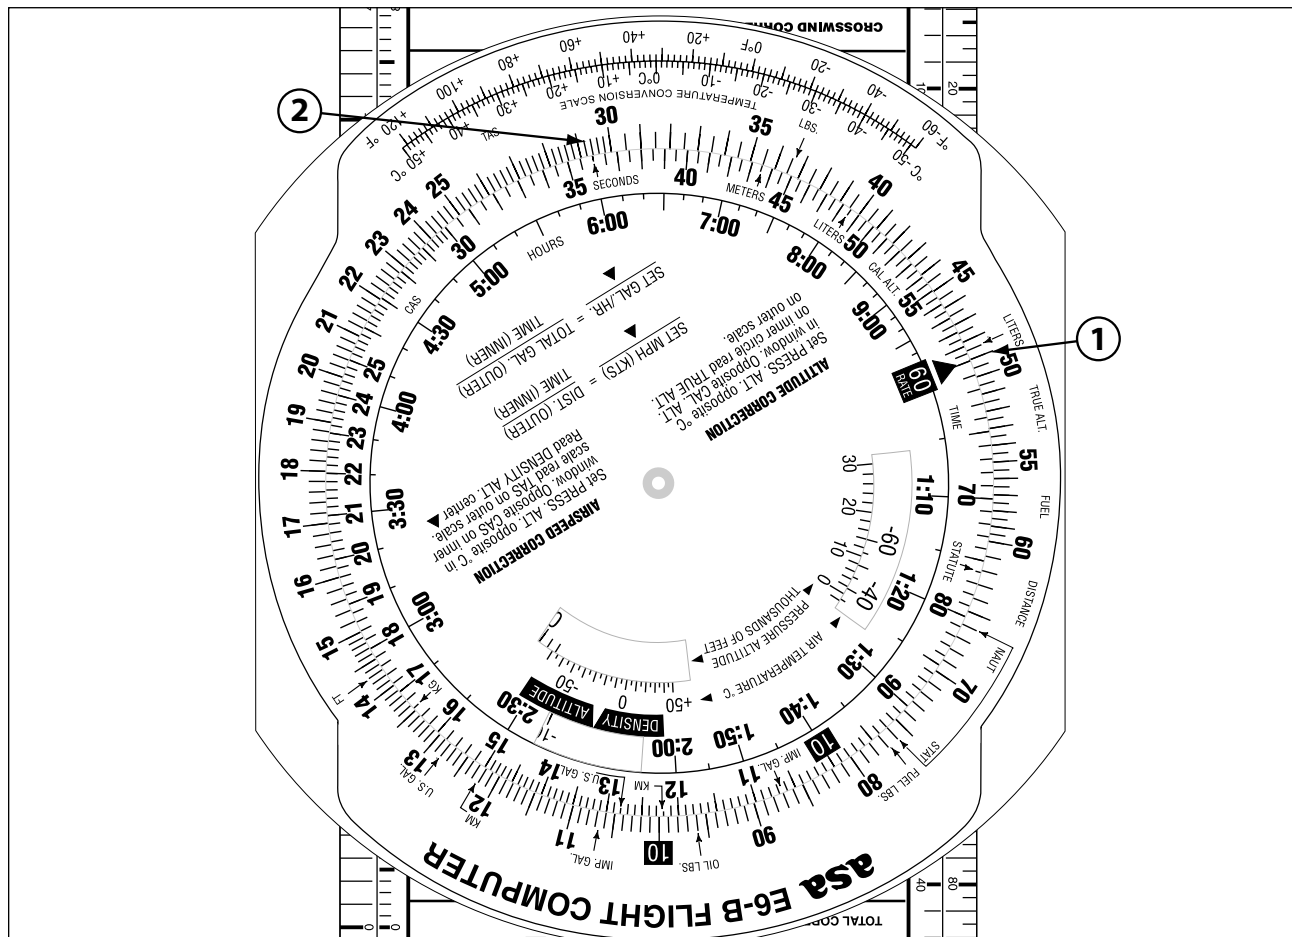

Figure 19-11. Find fuel consumption.
Figure 19-11 shows how to find how much fuel you'll use flying from Smithville to Greenville. As Figure 19-10 shows, after checking the groundspeed as 98 K, you'd expect to take 36 minutes to fly the 59 NM. This typical light trainer uses 4.9 gallons an hour at 65 percent normal rated power. You would set up 4.9 (point 1 in the figure) on the outer scale opposite 60 minutes (speed index). Opposite 36 minutes you'll note that 2.94 gallons will be used (2). The 4.9 gallons per hour could have been 49 or even 490 if your airplane had this sort of fuel consumption (and the fuel consumed in